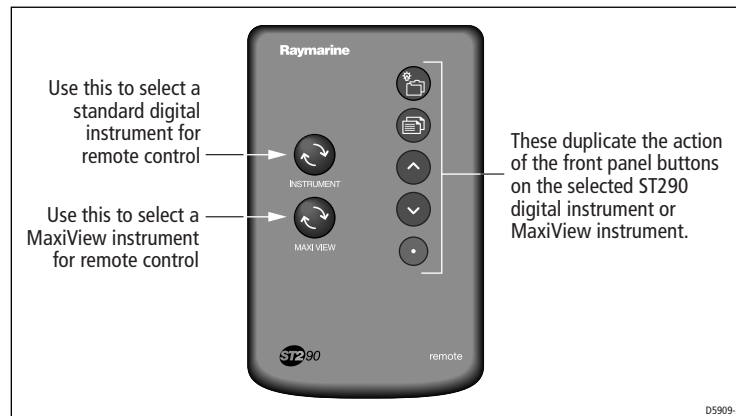

Figure 2-3: Remote controls
The the functions assigned to each keypad button are shown in *Figure 2-3*.
2. Use the appropriate Remote Keypad buttons to operate the selected instrument (see *Figure 2-3*), in the same way that you would use the respective buttons at the instrument.